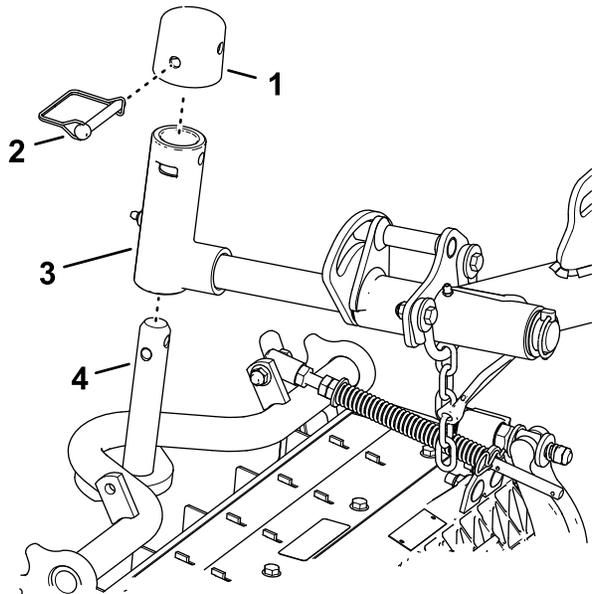

Figure 17
1. Slide a cutting unit under the lift arm (Figure 17).
Locking the Cutting-Unit Pivot for Cutting Grass on a Hill Side—Lock the cutting-unit pivots to prevent the cutting units from rotating downhill when cutting across the face of a hill. Use the hole in the pivot yoke (Figure 17) to lock the cutting unit. Use the slot for a steering cutting unit.